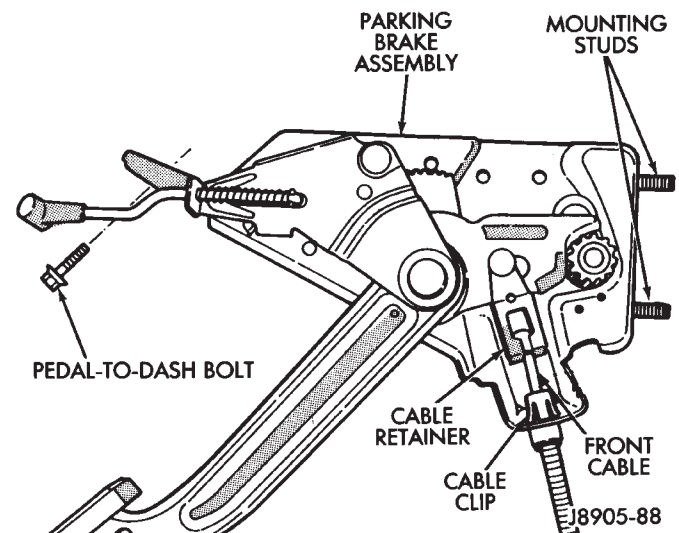

Fig. 18 Park Brake Assembly - YJ
(1) Remove nuts that attach the park brake assembly mounting studs to the dash panel. The nuts are accessible from the engine compartment (Fig. 18).